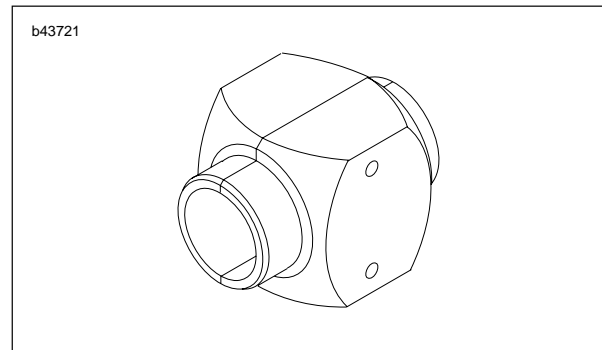

Figure 2-74. Fork Seal Driver (B-42571) 43mm
7. See Figure 2-71. Drive the guide bushing (22) with the seal spacer (23) and oil seal (24) into position in the outer tube using a FORK SEAL DRIVER (Part No. B-42571/43mm). See Figure 2-74.
8. Install the oil seal stopper ring (25) and a **new** dust seal (26).